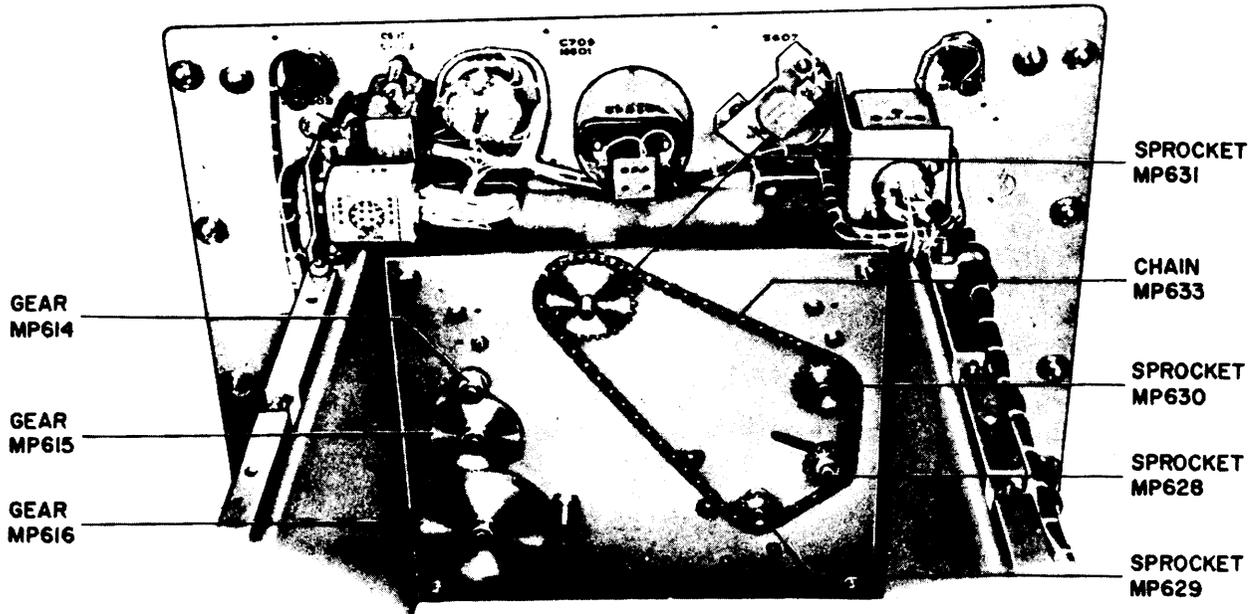

Figure 6-17. Electrical Frequency Control C-2764/WRT-2 Interpolation Oscillator, Replacement of Parts on Gearbox Back Plate
(3) GEAR DRIVE REMOVAL.—The gear drive assembly of the Electrical Frequency Control C-2764/WRT-2 is removed with the oven out of the chassis. Identify and remove all connections to the oven. Remove the three screws from each mounting angle for the oven assembly. Slide the oven slightly toward the back of the chassis and then lift it out of the chassis. Remove the eight screws which attach the gear drive assembly to the front panel of chassis. Shift the gear assembly toward the rear of the chassis, and remove it.
(4) GEAR DRIVE DISASSEMBLY.—To disassemble the gear assembly, refer to figures 6-17 and 6-18 and proceed as follows:
Step 1. Remove microswitch S605 by withdrawing the two mounting screws from the back cover of the gear housing. See figure 6-17.
(6) GEAR DRIVE ADJUSTMENT.—To adjust the gear assembly, refer to figures 6-17 and 6-18 and proceed as follows:
Step 2. Set the left dial of the upper counter and of the lower counter to 4 by turning the gear shafts. Turn TUNING (A) control knob until the shutter moves to the down position to read the lower counter.
Step 5. Clockwise rotation of TUNING (A) control knob should now shift the shutter to the upper position and the left dial of the upper counter to 5.
Step 9. Rotate TUNING (B) control knob counterclockwise until the stop on gear MP618 limits the turning of the knob.